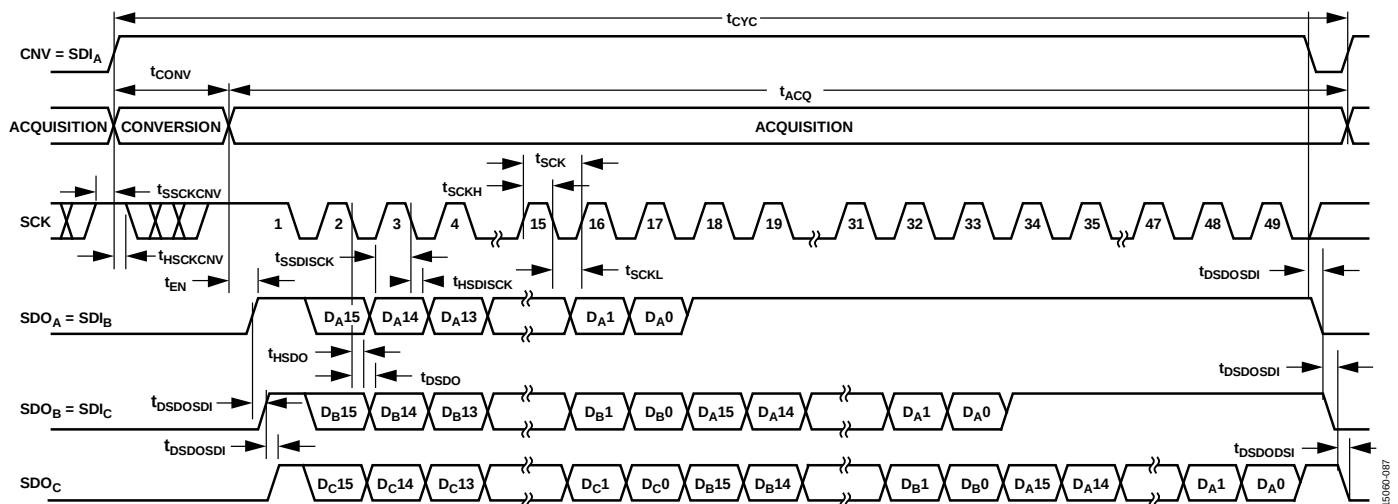

Figure 82. Chain Mode with Busy Indicator Serial Interface Timing
- In chain mode if SCK is high during the CNV rising edge (see Figure 82).